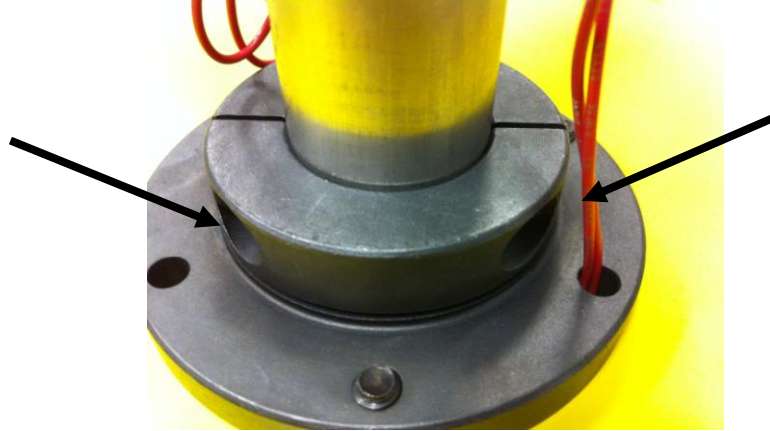

Figure 46 – Close-up of collar on disk
- d. While still holding the disk (so that it does not fall down), tighten the two locking screws on the collar, shown in Figure 46, to secure the disk to the collar. Alternate between the two screws until both are tight and the disk is secured in place.